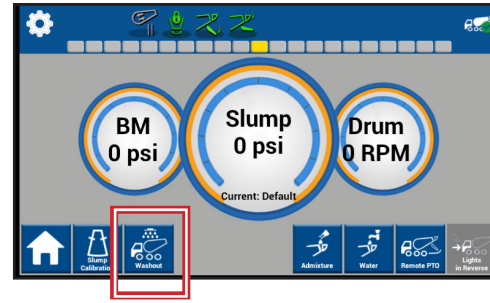

Figure 100
3. Select “Washout” (Figure 100).